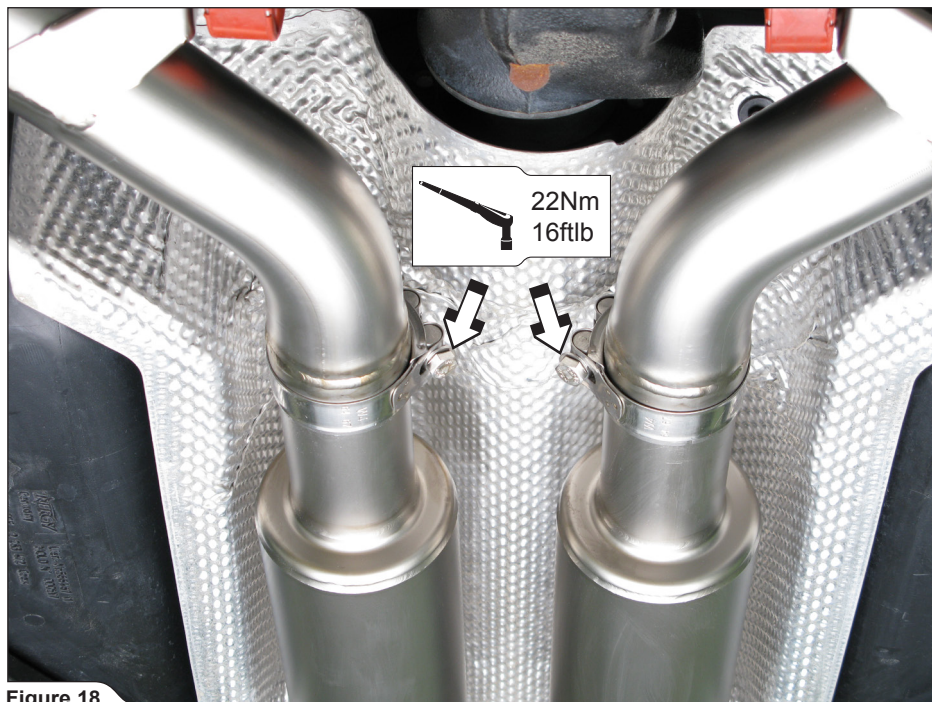

Figure 18
10. **For Evolution:** tighten the metal clamps on middle pipes-muffler pipes connections to a specified torque (**Figure 18**).